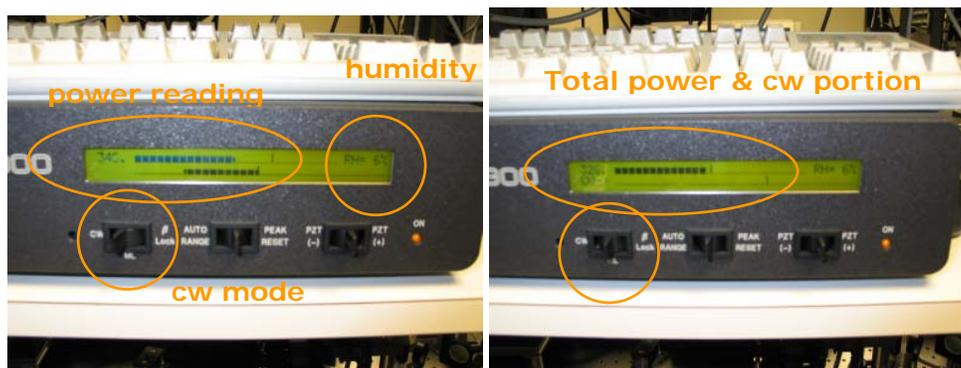

Figure 6: Ti:Sa controller: cw mode (left), modelocked (pulsing) mode (right)
- 5.3.8. Make sure that “cw” mode is selected on the Ti:Sa controller (Figure 6 left).
- 5.3.9. Also make sure that the relative humidity in the cavity is $< \sim 15\%$ (Figure 6). Contact CNS personnel, if the value is larger.
- 5.3.12. Observe the power reading on the Ti:Sa controller (Figure 6) and maximize the value with the end mirror and output coupler controls.
- 5.4.1. To enable laser pulsing, switch to “ML” on the Ti:Sa controller (Figure 6 right).
- 11.4. Select “cw” mode on the Ti:Sa controller (Figure 6 left).